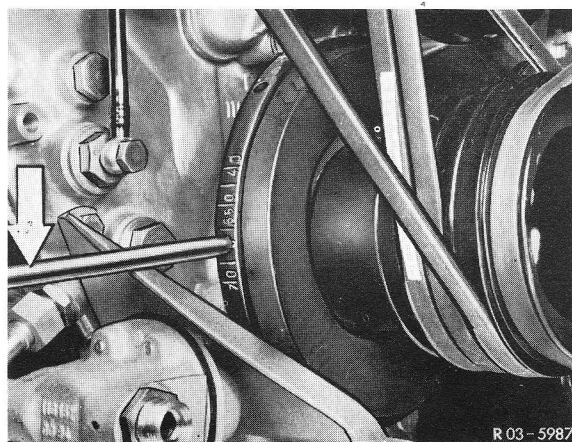

Fig. 2
a) Rotate engine with a mandrel of 8 mm dia. on vibration damper (Fig. 2).